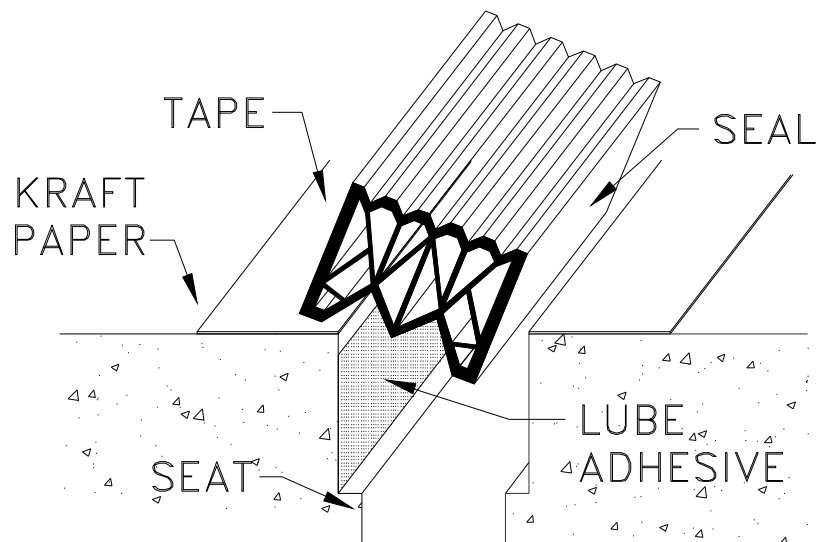

Figure 6
- STEP 8.** Beginning at one end of the seal, gradually compress and push the seal into the joint gap (see Figure 6). Ensure that the seal does not scrape the adhesive away from the joint interface areas to which it was applied.